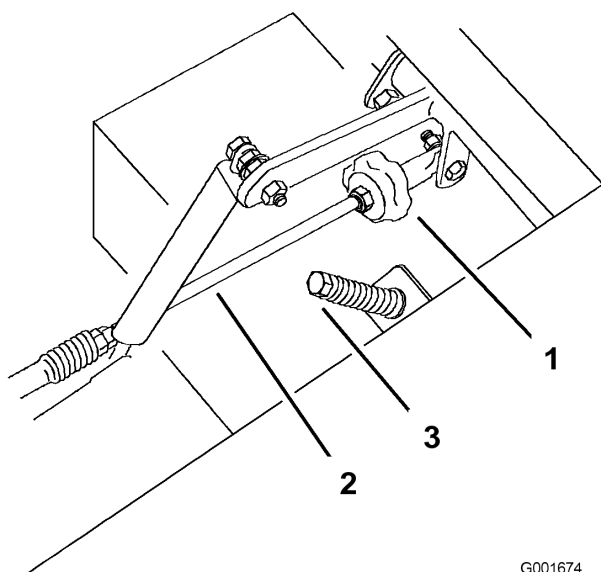

Figure 58
2. Adjust the pump rod length by rotating the knob, in the appropriate direction, until the wheel is still or slightly creeping in reverse (Figure 58).